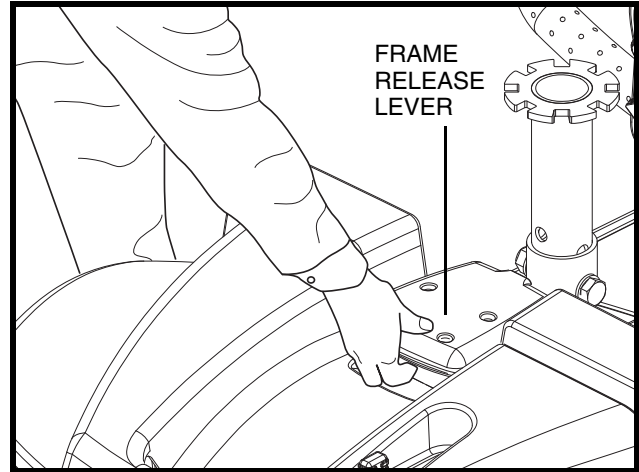

Figure 20. Frame Release Lever
8. Grasp and lift up on the frame release lever. See **figure 20**.